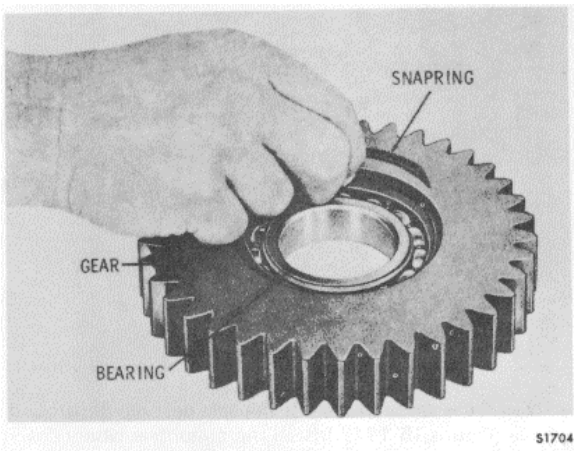

Figure 15-168. Installing Oil Pump Idler Gear (or PTO Idler Gear) Bearing Snap Ring
5. Install the bearing into the oil pump idler gear. Secure the bearing with the snap ring (Figure 15-168).